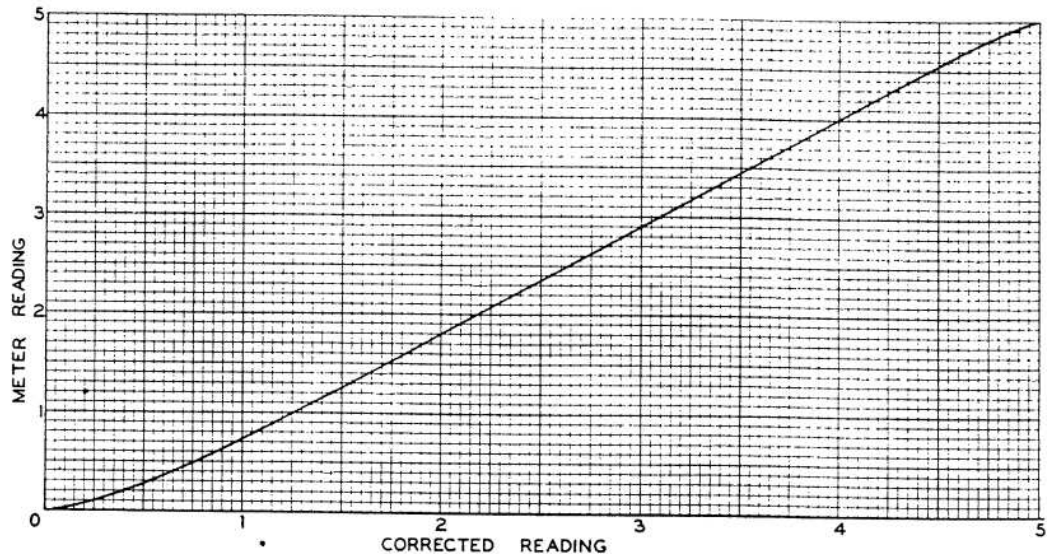

Figure 8—Correction Curve for Low Voltage Peak to Peak Measurements (0 to 4.5 P.P.)
6. For maximum accuracy when measuring peak-to-peak voltages between 0 and 4.5 volts, the correction curve, Figure 8 should be consulted.